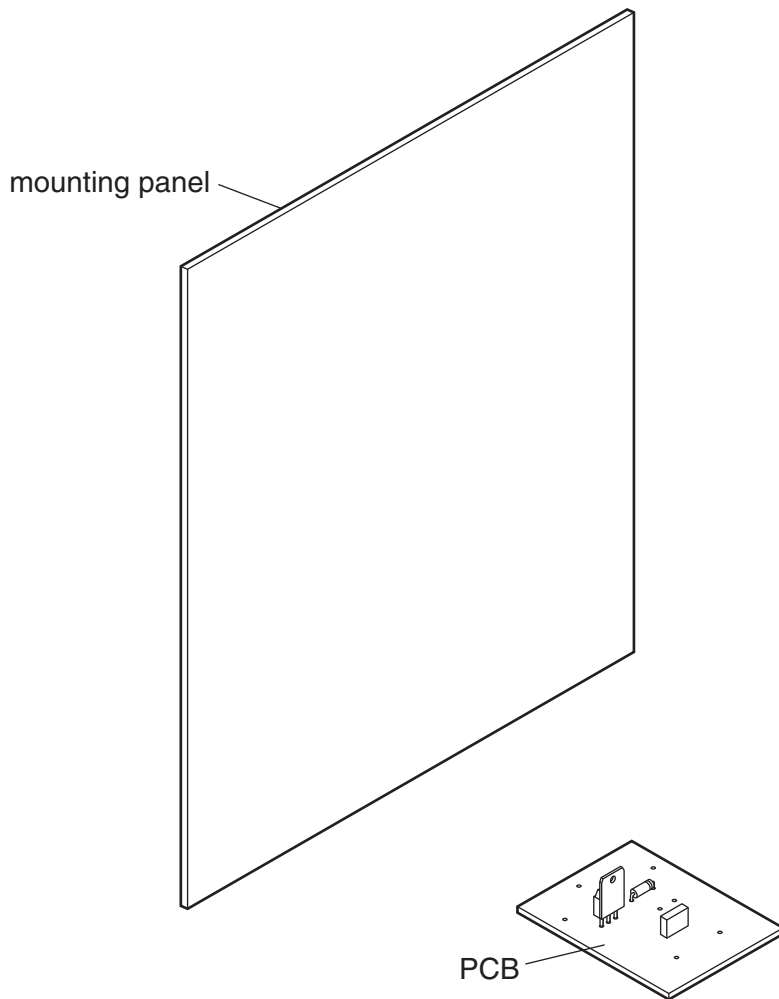

Fig. 16
- (b) The outline of the PCB and the panel that it is to be fitted to are shown in Fig. 16. Use sketches and notes to show a method of holding the PCB in position on the panel. It must be possible to remove the PCB for testing or repair.